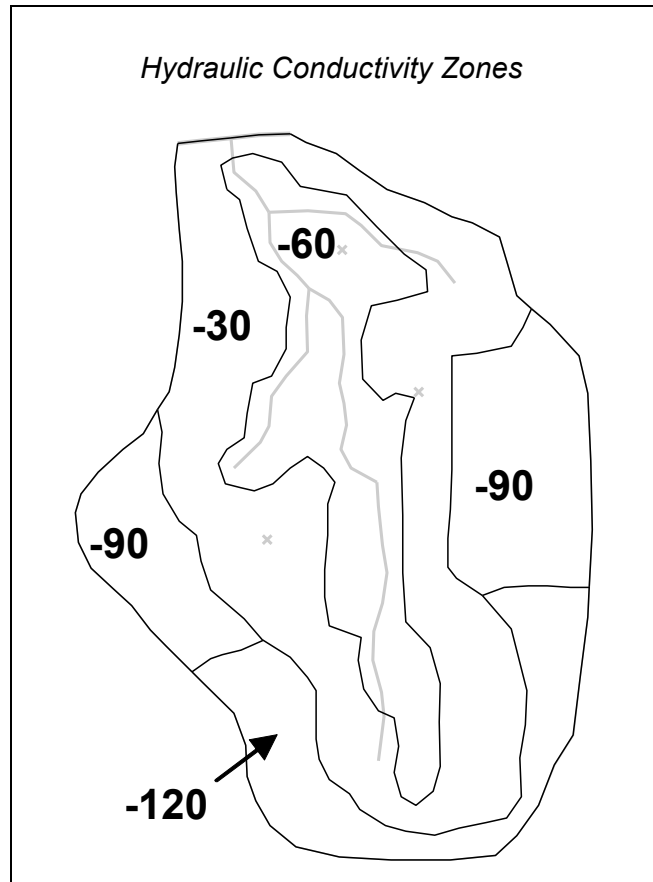

Figure 3 Hydraulic conductivity zones and parameter key values
Start with setting up the hydraulic conductivity zones. The hydraulic conductivity polygons are shown in Figure 3. The five polygons will be used to define five parameter zones. The key values associated with each of the five zones are shown on the polygons in Figure 3.
2. Using the **Select Polygons**  tool, double-click on the central polygon with the value of “-60” (see Figure 3) to open the *Attribute Table* dialog.
5. Repeat steps 2–4 for the remaining four polygons, entering the parameter key values as indicated in Figure 3.